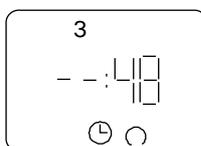

Figure 22.
- cancel hours and minutes so that the blank dashes symbol appears ( - - : 48) or ( 19 : - - ) (Fig. 22 and 23)